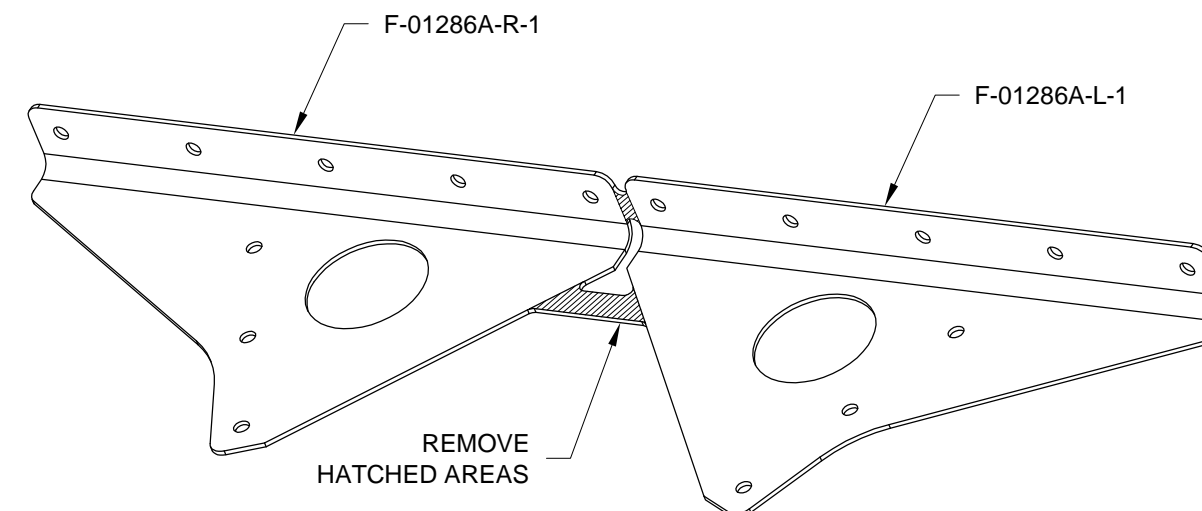

FIGURE 3: SEPARATING F-01286A-1
Step 6: Separate F-01286A-1 by removing the hatched areas shown in Figure 3.